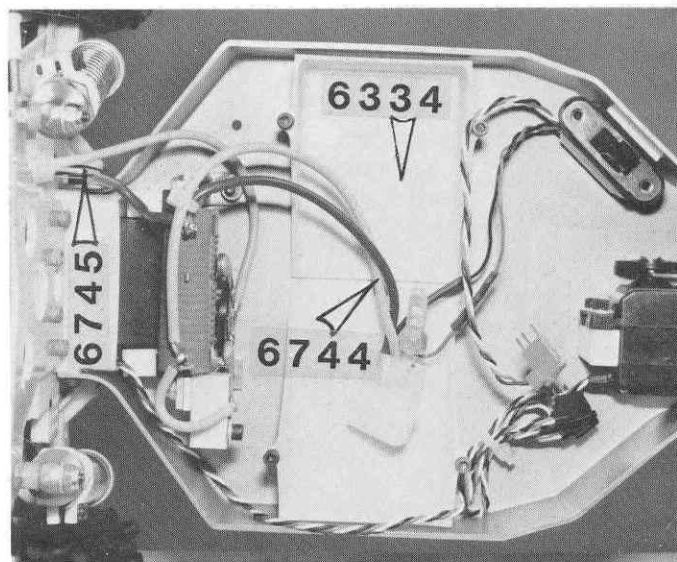

Fig. 179
□ **Fig. 179** We've installed the #6745 portion of the wiring, now we'll finish the #6744 wiring. Now, we'll attach the wires to the switch. On the wiring diagram fig. 208 it shows a black, a green and a red wire going to the radio. You'll only use 2 of these wires, not all 3. On the wiring diagram, you'll notice there are diodes by the battery plug. These diodes cut the voltage down going to your radio so you won't burn out your radio. We'll be attaching 2 of these wires to 2 wires on the radio switch. If there's short wires on the switch, use these for the connections. You'll have to cut the connector off and strip the end of the wires about 1/4" for soldering. We'll tell you the correct wiring for different radio and battery combinations. With a Futaba radio and a 6 cell battery pack - solder the black (-) lead, on the diagram, to the black (-) lead, on the switch. Then solder the green (+) lead on the diagram to the red (+) lead on the switch. Cut the extra red wire off by the 3 pin connector. With a Futaba radio and a 7 cell battery pack, solder the 2 black ends together, and then solder the 2 red ends together. Cut the green wire off by the diode. With an Airtronics radio and a 6 cell battery pack solder the black (-) lead, on the diagram, to the #2 (-) which is marked on the switch plug. Now solder the green (+) lead on the diagram to the #3 (+) lead. Cut the extra red wire off by the 3 pin connector. With an Airtronics radio a 7 cell pack - solder the black (-) lead, on the diagram, to the #2 (-) wire. Now solder the red (+) lead to the #3 (+) wire. Cut the extra green wire off by the diode. For other radios you'll always solder the black (-) wire to the (-) wire on your switch. With a 6 cell battery pack you'll solder the green (+) wire to the (+) wire on your switch and with a 7 cell pack you'll solder the red (+) wire to the (+) wire on your switch. Now, with black electrical tape, put a few wraps of tape around the first solder connection, and then put a few wraps around the 2nd solder connection. Now, attach the #6334 battery trays to the chassis, from Bag #6-7, as shown, with the flathead Allen screws.